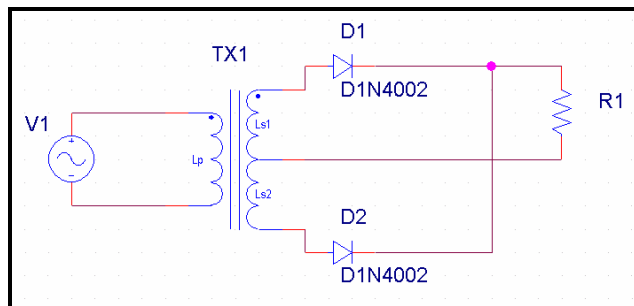

Fig 1.2 – Full Wave Rectifier
- Construct the circuit shown in Figure 1.2. Test the circuit for a possible short to ground with an ohm meter. Correct any wiring errors and test again. **Connect TX1** to an AC outlet. Measure and record the waveform across R1. **Disconnect TX1** from the AC outlet! Plot and label the waveform Figure 2A -- Waveform across R1 in Full Wave Rectifier. Indicate and measure any relevant detail.